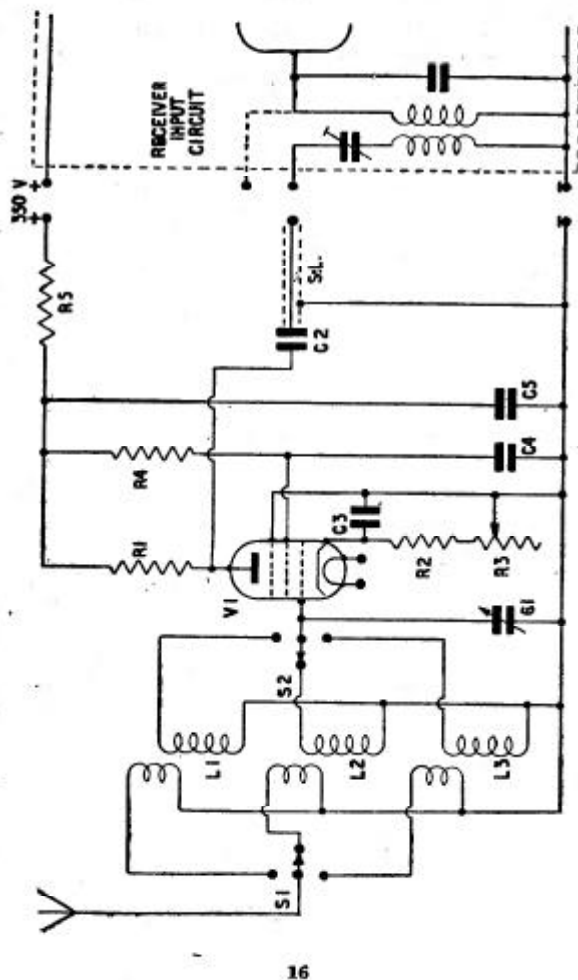

FIG. 4.—Pre-selector with Capacitive Coupling.
The simple aerial coupling coil is generally found only in the communications type of receiver, and an input circuit of the type shown in Fig. 4 will usually be found in the ordinary broadcast receiver.
In this case the capacitive coupling is simpler to arrange, but even better results may be obtained if the output of the pre-selector is fed directly through a small capacitance to the tuned grid circuit of the first receiver stage, the connection being shown by the dotted line in Fig. 4.
#### Components List for Pre-selector Unit, Fig. 4. For Use With 4 or 6 Volt Valves.
- Note.—In Fig. 4, if C2 is to be connected to the following grid circuit, as shown by the dotted line connection, the value of C2 must then be reduced to 0.0003 or 0.0005 mfd.